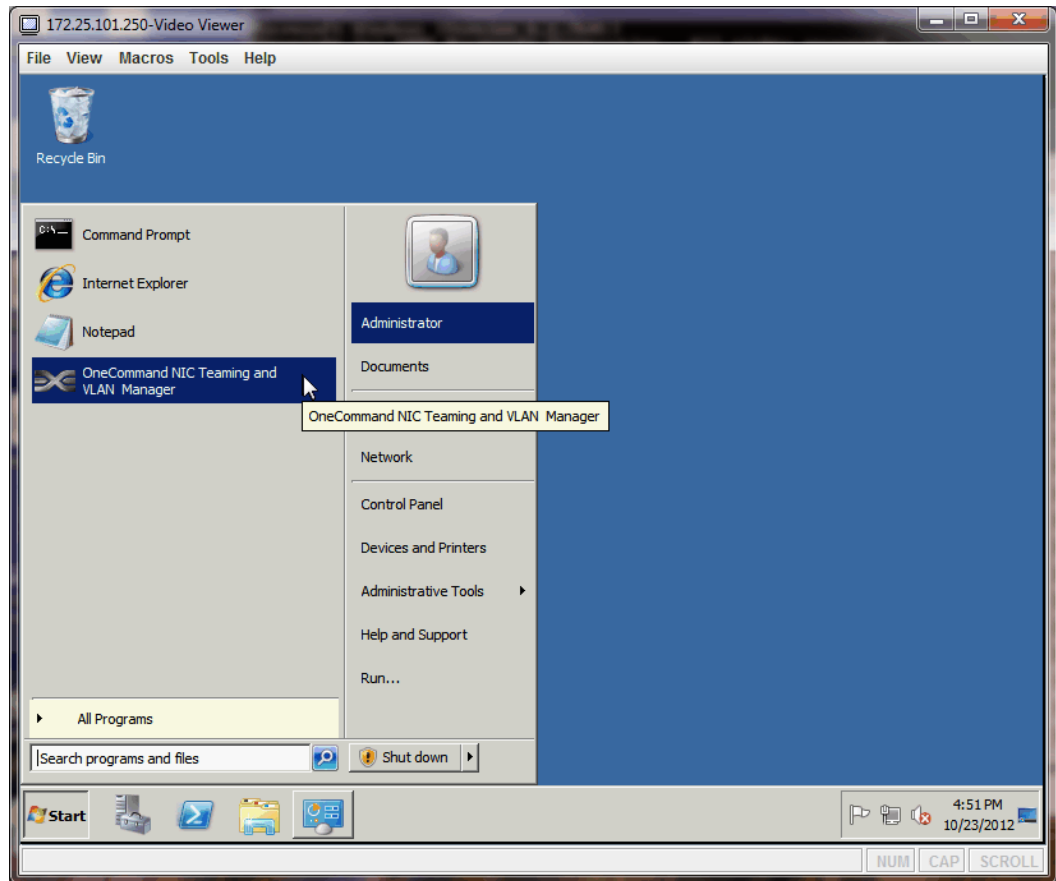

Figure 5-3 Launching the OneCommand utility by Emulex
2. Start the “OneCommand NIC Teaming and VLAN Manager”, as shown in Figure 5-3.